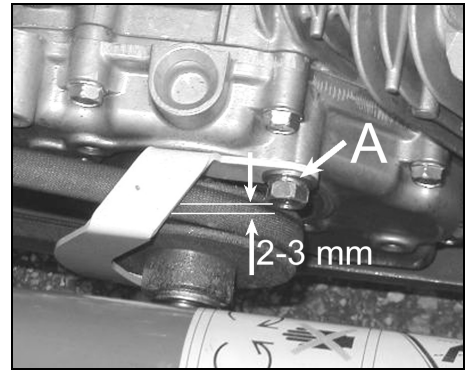

Figure 25
2. Shift the running clutch lever to "running" position and adjust the position of the belt holder so that the gaps on both sides between the running V belt and the belt holder are 2-3 mm.(A figure 25)